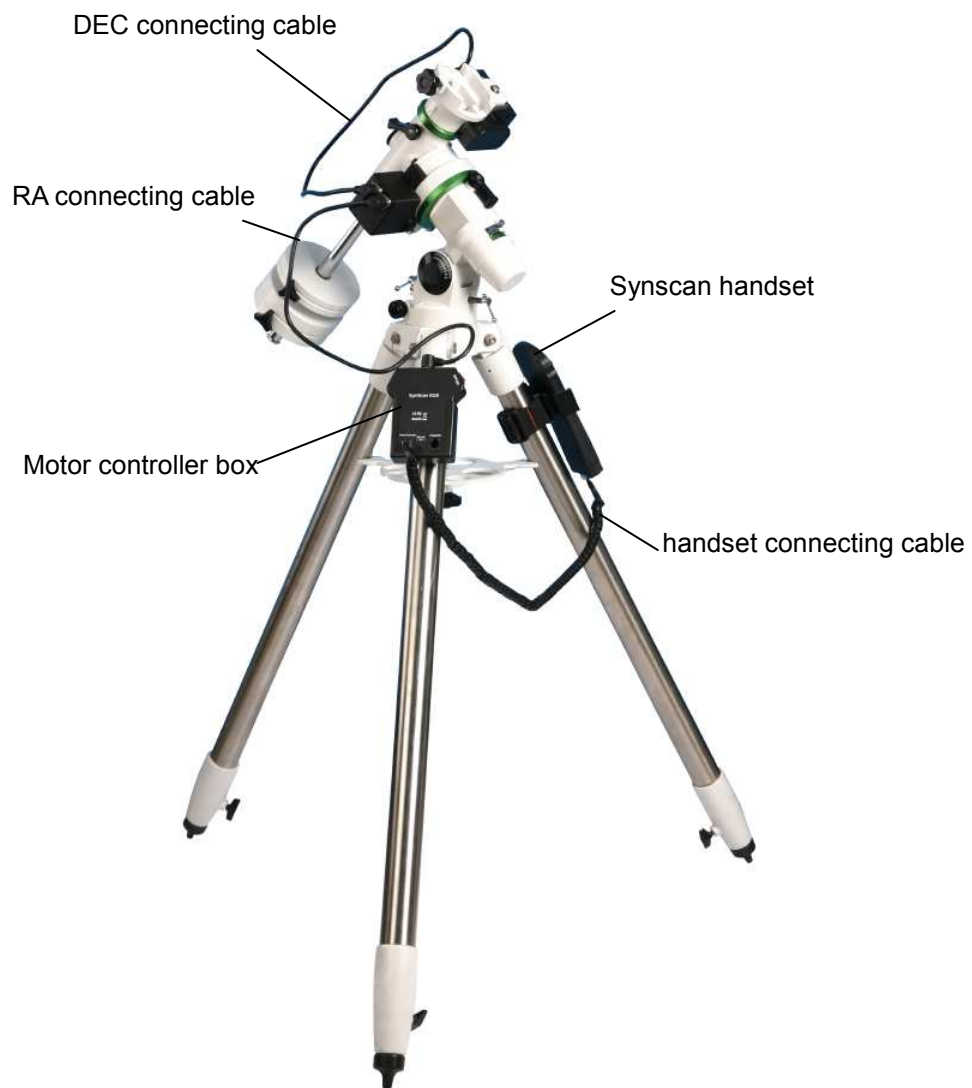

Fig 8
1.6 Installing electrical components (EQM-35 PRO automatic “goto” version only) (fig 8)